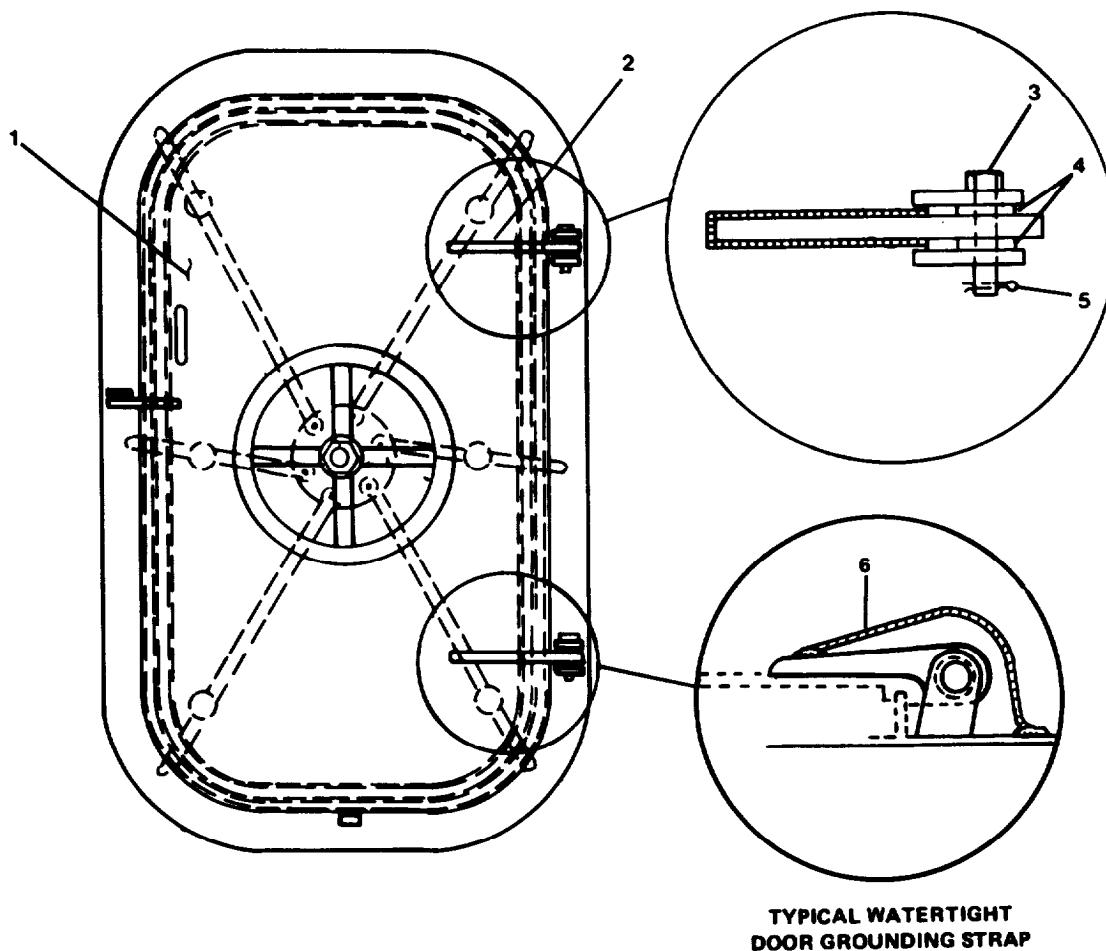

FIGURE 2-172. Replace Watertight Door, Quick Action, Left Hand (30 x 66).
- a. Remove (if installed) grounding straps (6, FIGURE 2-172) from hinge blades (2) and from bulkhead.
- b. Open door (1).
- c. Remove cotter pins (5) from cylindrical pins (3).
- d. Remove cylindrical pins (3) from hinge blades (2).
- e. Remove flat washers (4) then remove door (1).
- a. Place door (1, FIGURE 2-172) in position on frame.
- b. Install flat washers (4) and align holes.
- g. Install (if removed in step a of removal procedure) grounding straps (6, FIGURE 2-172) from hinge blades (2) and from bulkhead.